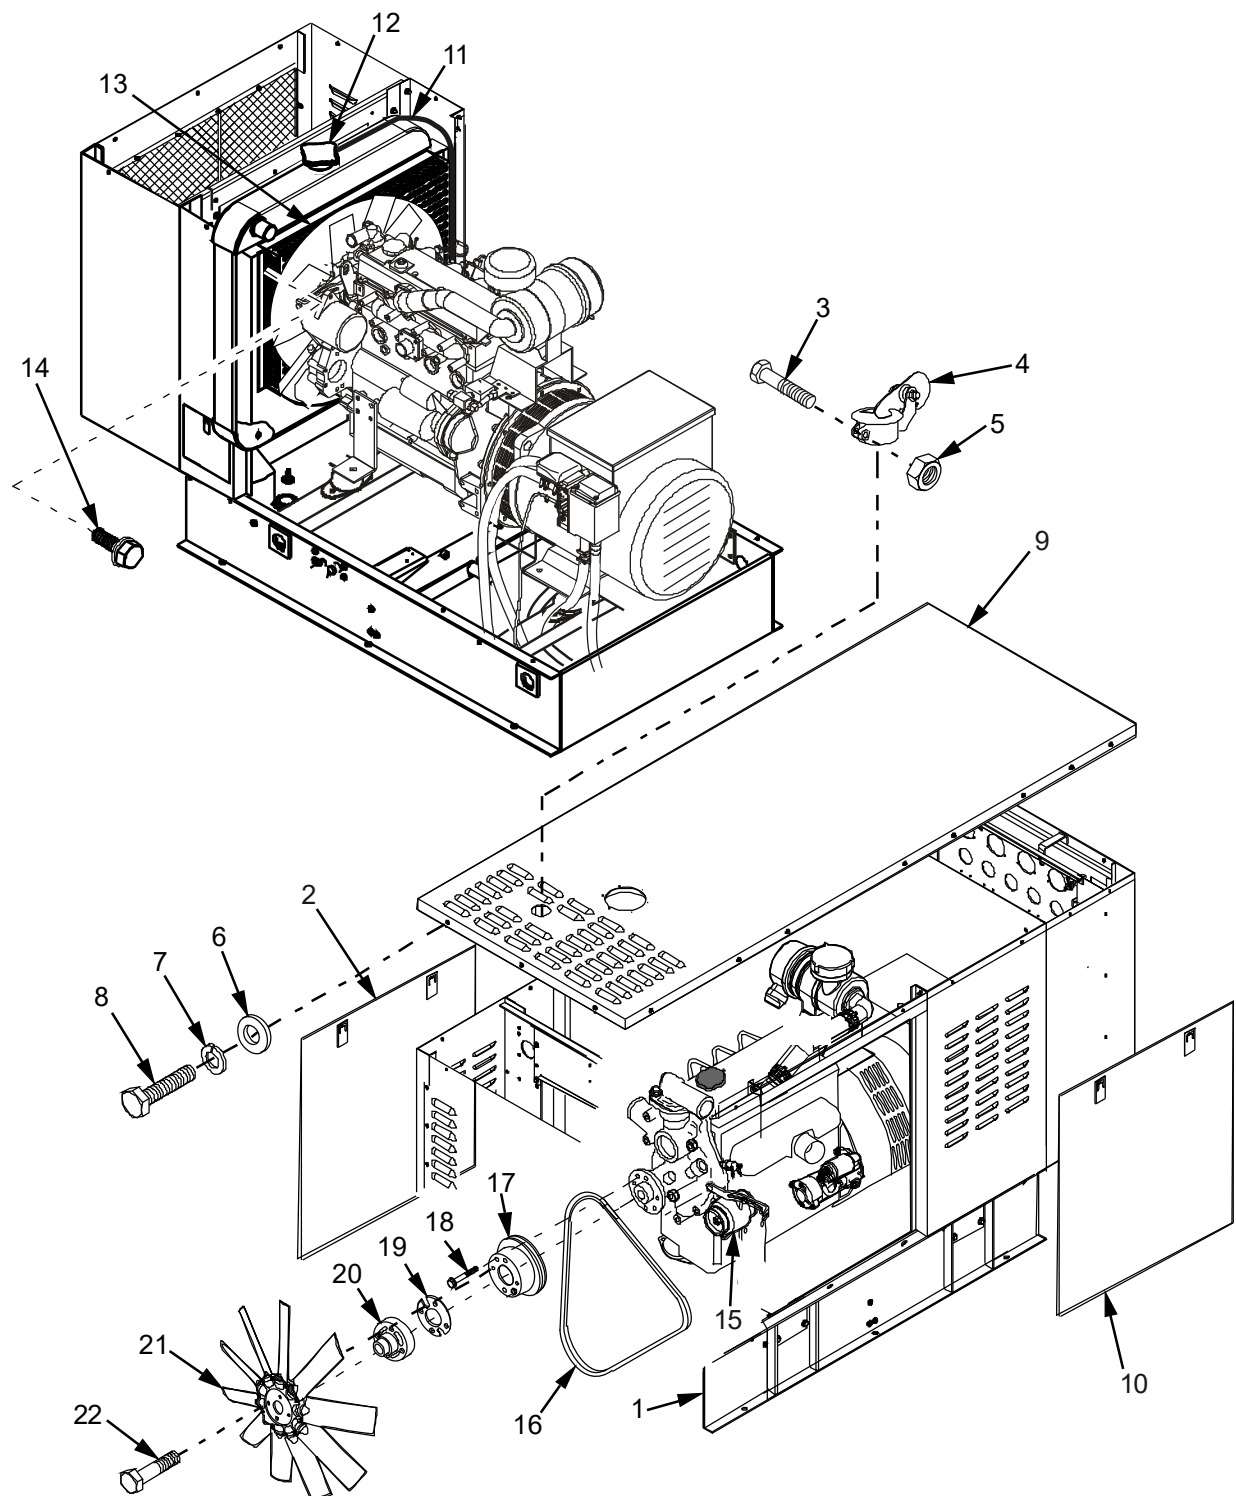

Figure 1. Fan - Replace.
If pulley assembly (Figure 1, Item 17) was removed from water pump, replace pulley assembly and secure with bolts (Figure 1, Items 18) tighten to 17.4 ft./lb (23.5 n-m/2.4 kgf-m).
1. Install engine fan (Figure 1, Item 21) and spacers (Figure 1, Items 19 & 20) onto pulley assembly (Figure 1, Item 17).
2. Apply sealing compound to four bolts (Figure 1, Item 22). Secure engine fan and spacers to pulley assembly with four bolts (Figure 1, Item 22).
3. Using torque wrench, tighten four bolts (Figure 1, Item 22) of engine fan to 17.4 ft./lb (23.5 n-m/2.4 kgf-m).
4. Install outer fan shroud (Figure 1, Item 13) and secure to radiator with eight bolts (Figure 1, Item 14).
5. Install radiator overflow tube (Figure 1, Item 11) below radiator cap (Figure 1, Item 12). Attach radiator overflow tube (Figure 1, Item 11) to outer fan shroud with strap ties.
6. Install engine fan belt (Figure 1, Item 16) and adjust tension as described in WP 0072.
9. Install top access panel (Figure 1, Item 9) and secure using 20 bolts (Figure 1, Item 8), new lock washers (Figure 1, Item 7) and flat washers (Figure 1, Item 6).
10. Install exhaust pipe cap (Figure 1, Item 4) and tighten nut (Figure 1, Item 5) and bolt (Figure 1, Item 3).
12. Install front and rear access panels (Figure 1, Items 2 and 10) onto Genset (Figure 1, Item 1).